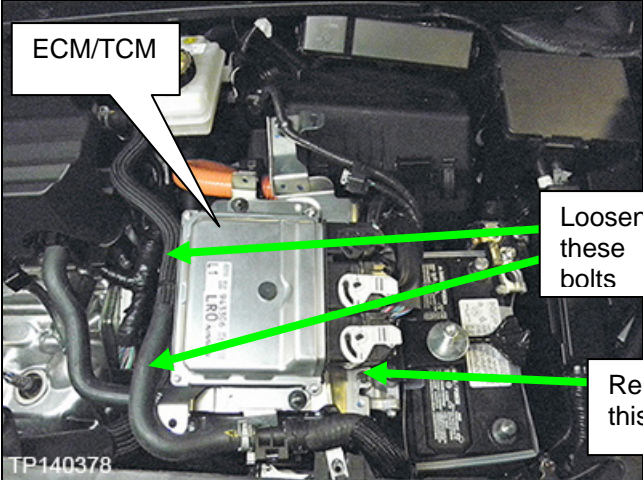
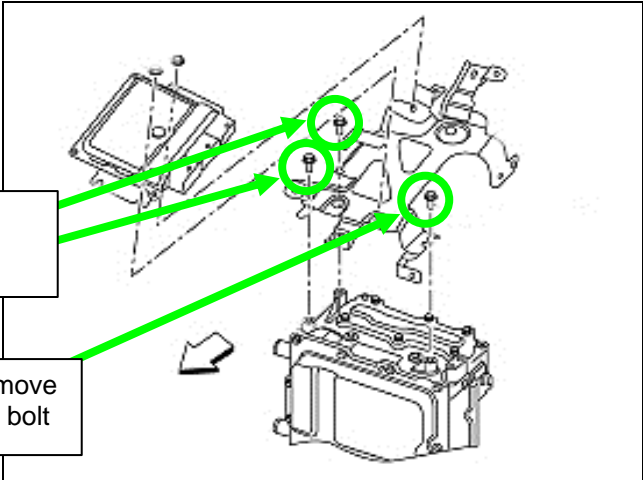

Figure 8
Figure 9
14. Of the three bolts holding the ECM/TCM (shown in Figure 8 and Figure 9) to the Traction Motor Inverter, loosen two and remove one.